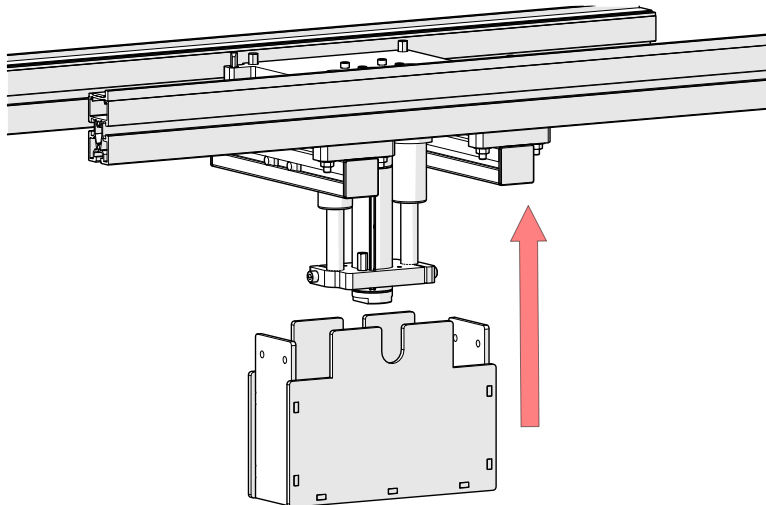

Figure 7: Installing Guarding
Step 4: Secure the guarding with the 4 M8 BHCS as shown in Figure 7.